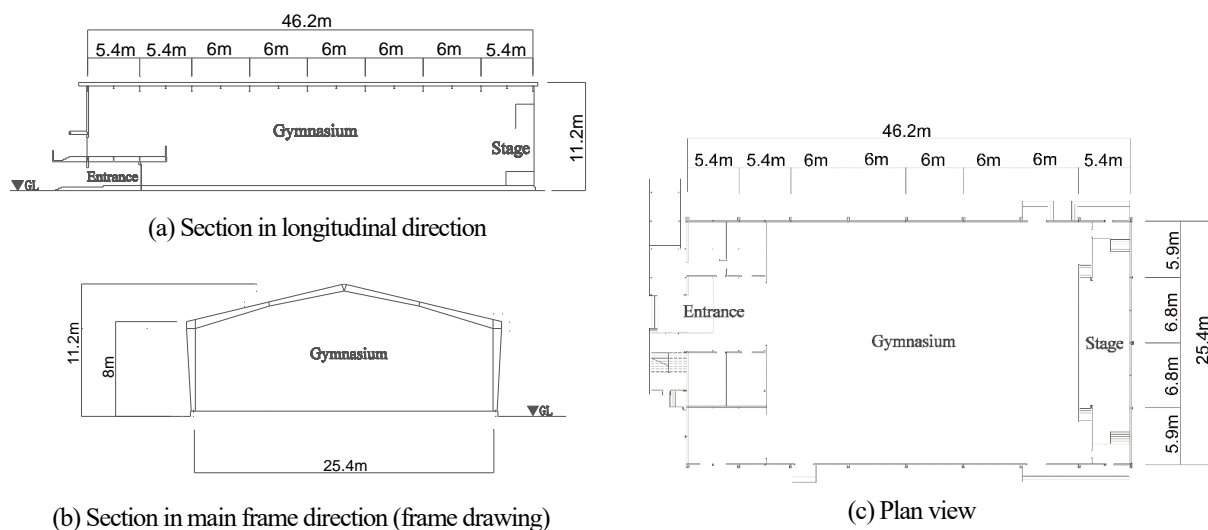

Figure 2 General drawings of the gymnasium that you have designed several years ago
Let's assume that you designed the structure of a gymnasium indicated in Figure 2, several years ago. Since there was not enough space for snow accumulation around the site, the gymnasium was designed to retain snowfall on the roof. One day in a winter, the weather forecast reports that extremely heavy snow is expected to fall in the region after one week. The predicted depth of the snow is far beyond the depth expected at design stage. Answer the following questions.
- (1) If the extremely deep snow falls on the gymnasium roof uniformly, how do you think the gymnasium collapses? Use the frame drawing indicated in Figure 2(b) to explain your answer.